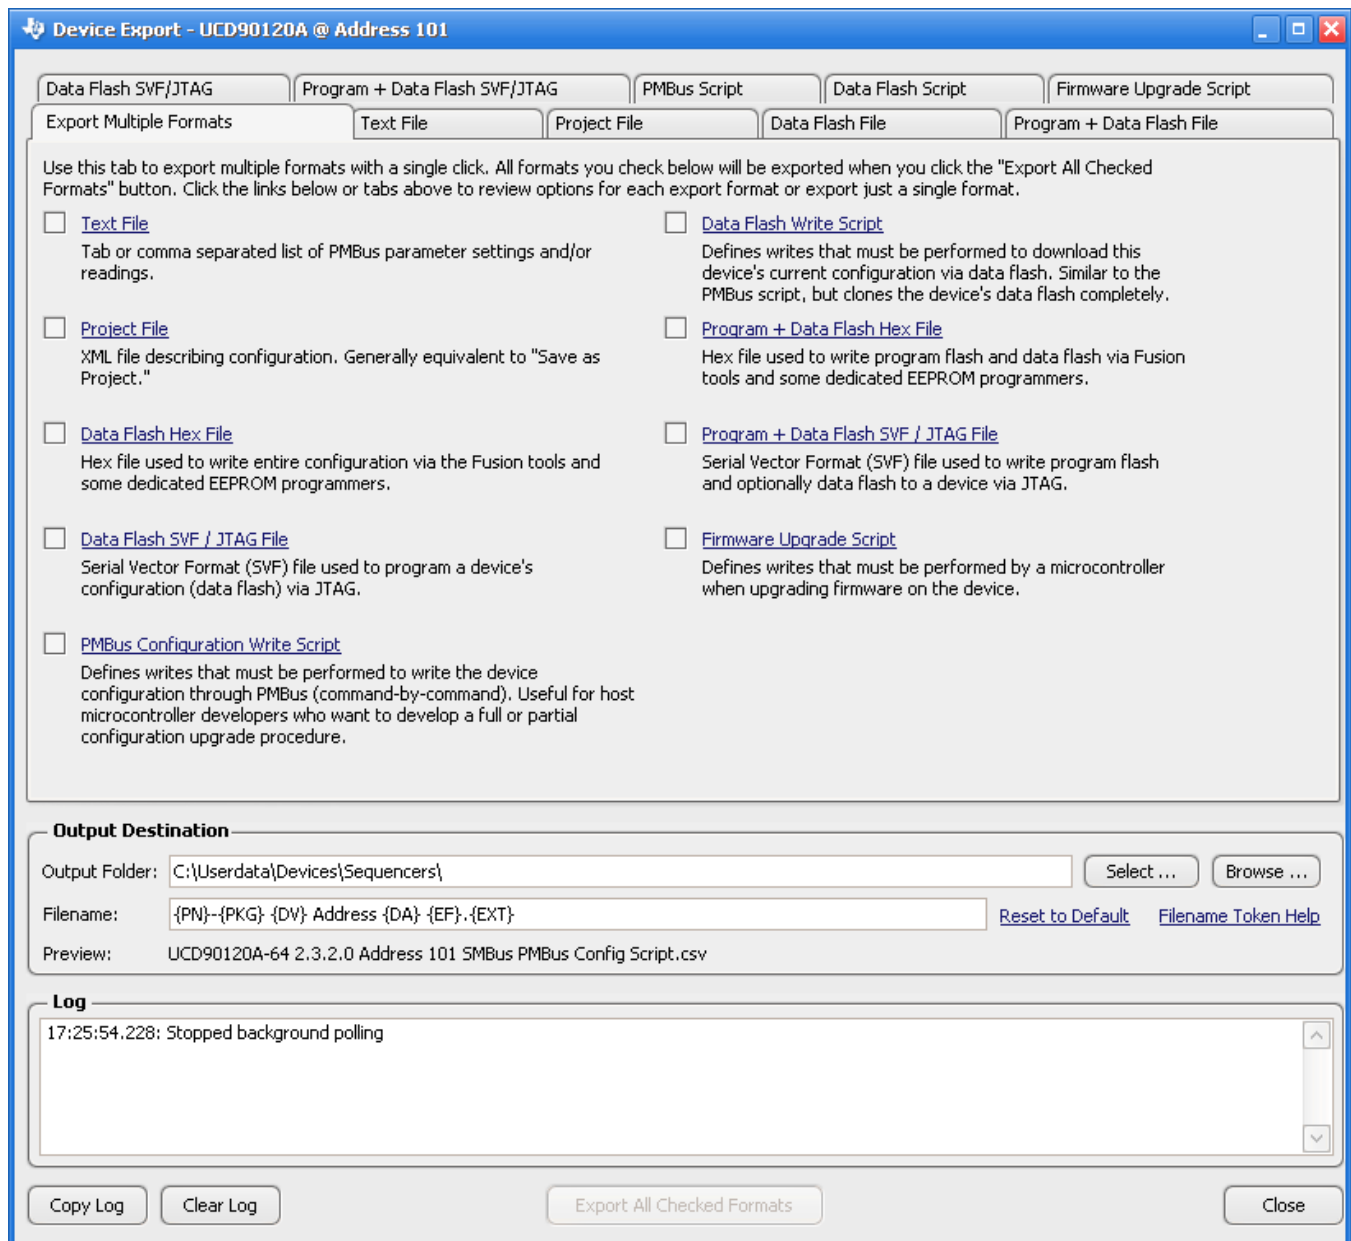

图 31. Fusion GUI Device Configuration Export Tool
- Another in-circuit programming option is for the *Fusion GUI* to create a data flash image from the configuration file (图 31). The configuration files can be exported in Intel Hex, Serial Vector Format (SVF) and S-record. The image file can be downloaded into the device using I2C or JTAG. The *Fusion GUI* tools can be used on-board if the *Fusion GUI* can gain ownership of the target board I2C bus.